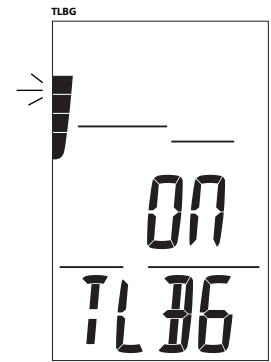

Fig. 23 - Set TLBG AL
**Set TLBG Alarm**, information includes (Fig. 23):